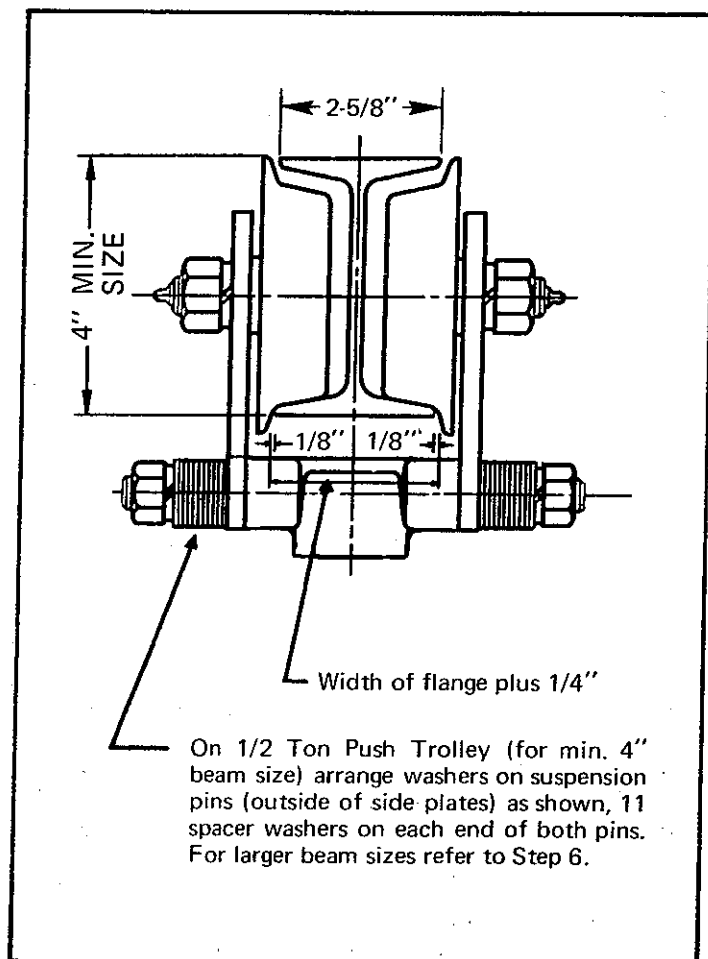

Figure 2. 1/2 Ton Push Trolley
4. Measure exact width of bottom beam flange and add 1/4" to this dimension. This is the required distance between inside faces of wheel flanges to obtain proper operating clearance, as indicated in figures 2 through 8.
5. If trolley being mounted on hoist is to operate on minimum size I-beam for which it was designed, attach trolley to hoist with the spacer washers arranged on suspension cross pins as illustrated in figures 2 through 8, depending upon trolley type and capacity. As stated in paragraph 3, it may be necessary to adjust washer quantity to meet a non-standard flange width. Minimum beam size for 1/2 ton trolleys is 4"; 5" for 1 ton trolleys and 6" for 2 & 3 ton trolleys.
6. If trolley is to operate on a beam of larger than minimum size, additional spacer washers, to those shown in figures 2 through 8 must be installed inside side plates (at each end of lug) to obtain the desired distance Step 4) between inside faces of wheel flanges. The table on page 4 shows approximate number of washers needed for various beam sizes. Trolley should be temporarily assembled to hoist using prescribed number of washers from chart and then the distance between wheel flanges measured. An equal number of washers must be removed or added at each end of lug inside side plates) as required to obtain proper wheel spacing determined in step 4. When spacing is correct, remaining spacer washers are to be installed in equal numbers on outside ends of cross pins. Install lockwashers and tighten hex nuts.